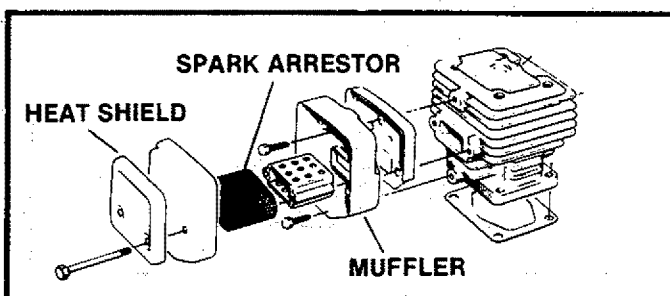

Figure 45
- b. Remove the muffler, baffles, and screen. Figure 45.